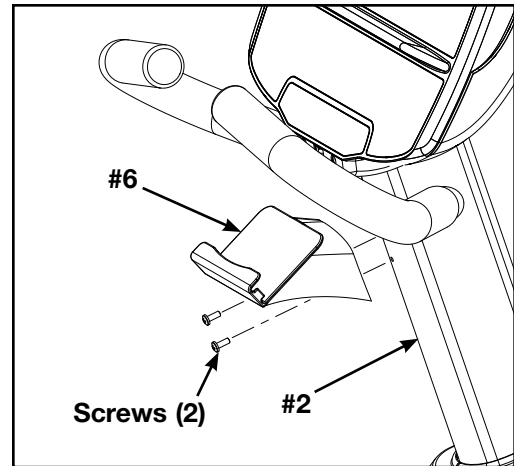

Figure 8
**A.** Locate the accessory tray (#6). See Figure 8.